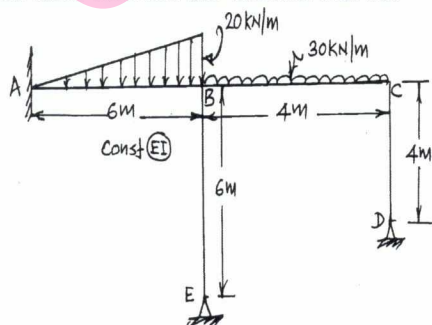

Fig. Q3
- 3 Analyse the frame shown in Fig. Q3 by using moment distribution method. Draw BMD, SFD and also sketch the elastic curve. (20 Marks)